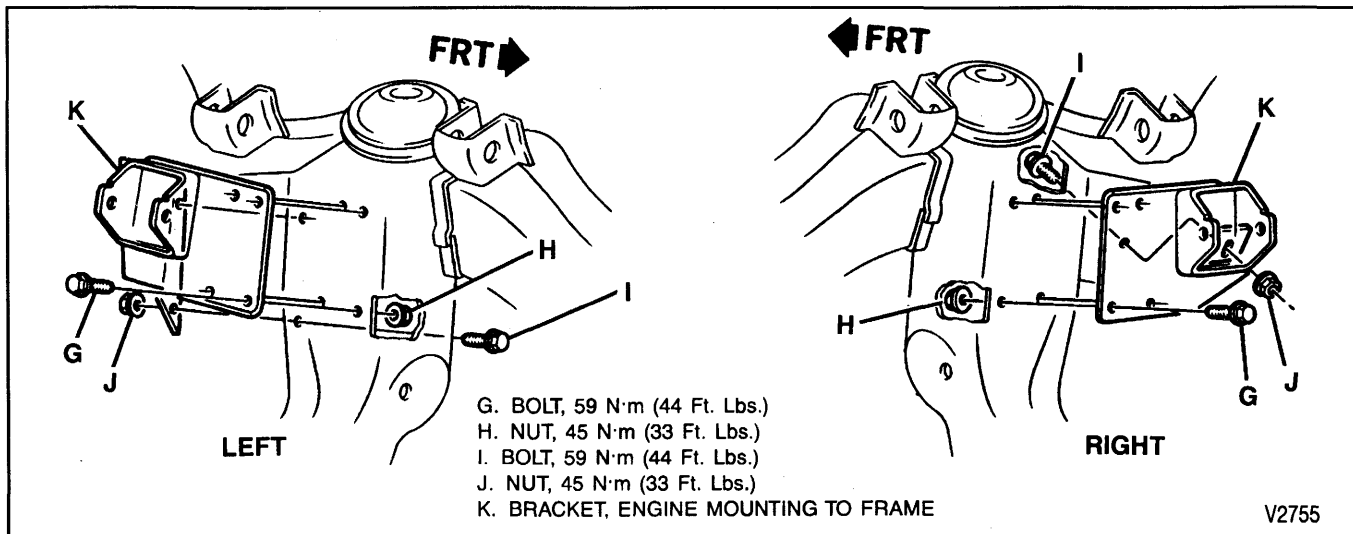

Figure 50—Front Engine Mounting Brackets to Frame (C1 and 2)
Remove or Disconnect (Figures 50, 51, and 52)
Install or Connect (Figures 50, 51, and 52)
- Fasteners to specifications (figures 50 and 51).
- Fasteners to specifications (figures 50, 51, and 52).